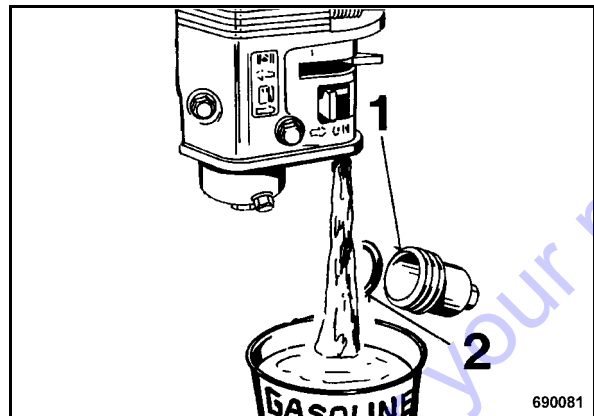

Fig. 61
- Unscrew the fuel sludge filter 1 (Fig. 61) and drain off all gasoline.
- Check seal ring (2) for cracks, replace the seal if damaged.
- Screw the fuel sludge filter with sealing ring (2) in tightly.